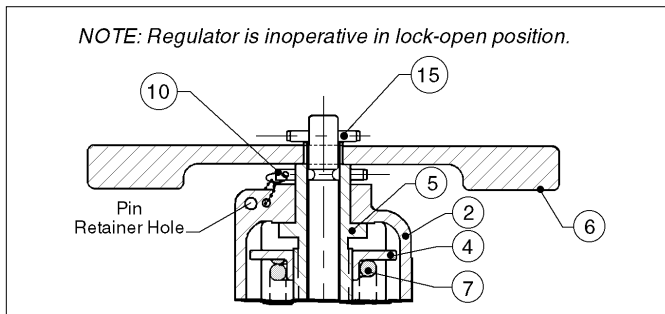

Figure 1: Spring Chamber in Lock-Open Position
- Remove the lock-open pin (10) from the pin retainer hole in the spring chamber (2). (See Figure 1.)
- System internal pressure must be at/near 0 psig (0 Barg). This will ensure plug (1.2) is fully open. **NOTE:** Do not change range spring (7) setting by rotating T-handle (6).